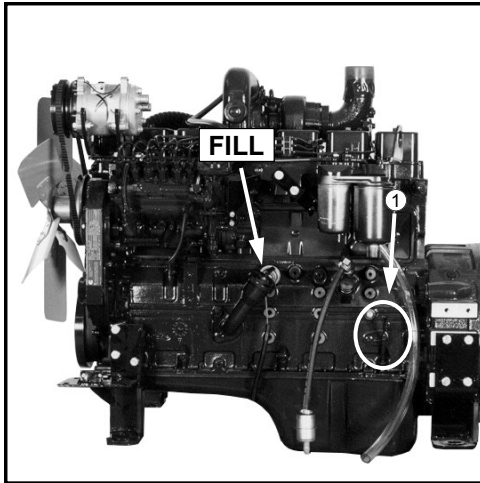

FIG 7.1
**OIL LEVEL** - The engine oil level dipstick is located on the left-hand side of the diesel engine (fig. 7.1, item 1). Never operate the engine with the oil level below the “L” (low) mark or above the “H” (high) mark. Wait at least five minutes after shutting off the engine to check the oil level; this allows time for the oil to drain to the oil pan. Check the engine oil level daily.